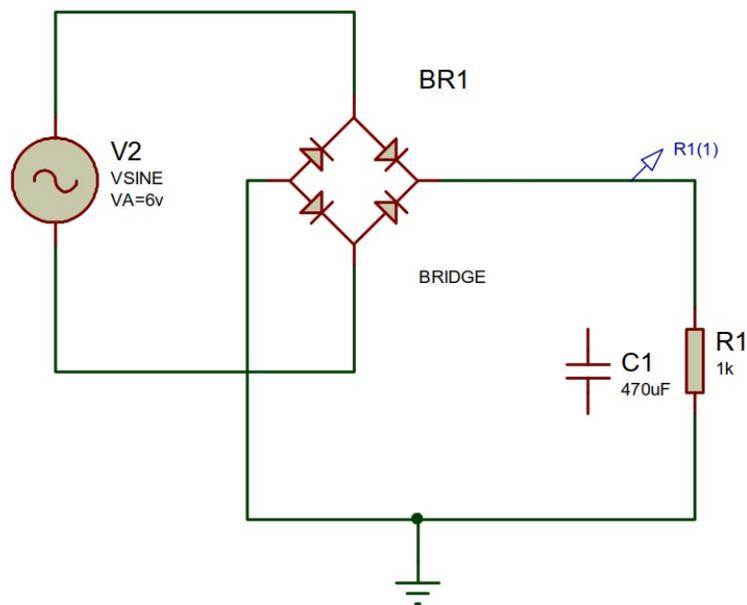

Figure 68: Full-wave Rectifier
2. Create the full-wave rectifier circuit shown in Figure 68.